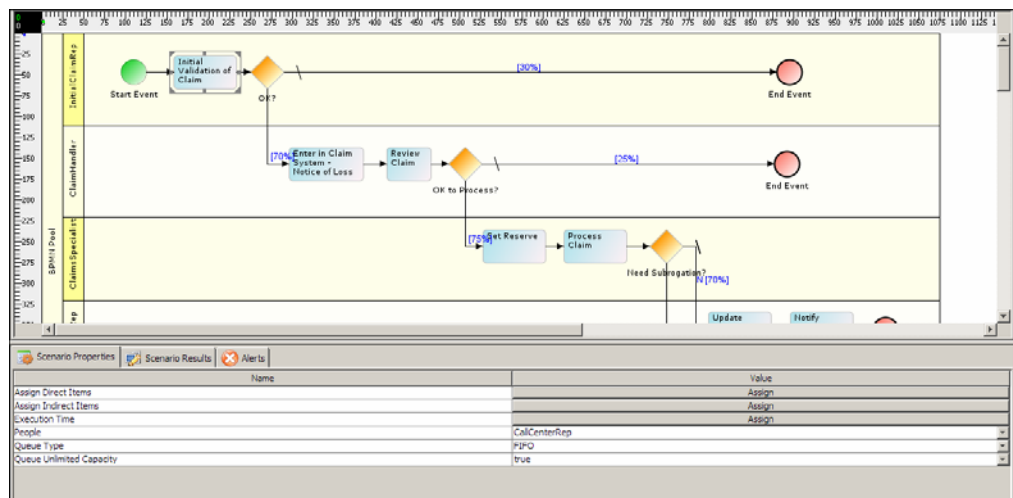

Figure 10.10: Scenario Properties
- To assign a resource to an activity, double-click the activity in the graph canvas area. Properties of the activity are shown in the Scenario Properties panel in the bottom pane (see Figure 10.10).